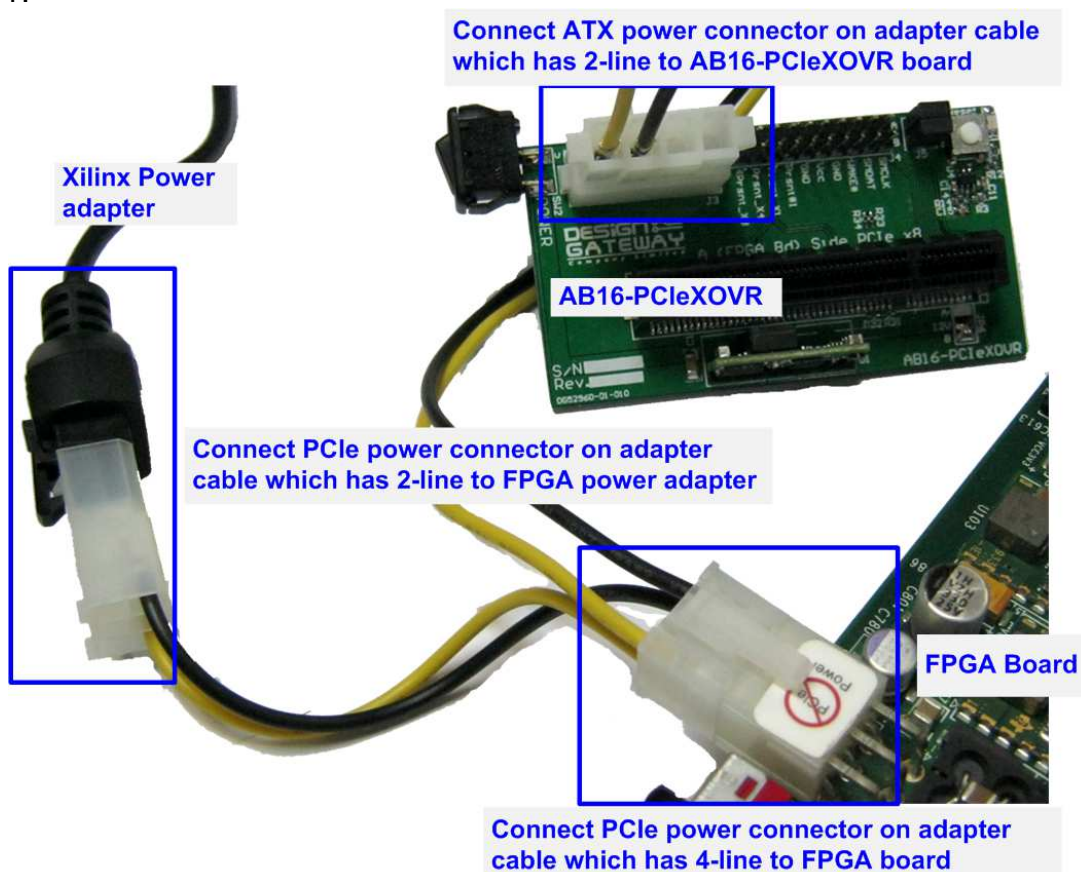

Figure 2-1 Connect power adapter cable to FPGA board, AB16, and Xilinx adapter
- 2) Connect power adapter cable from AB16-PCIeXOVR delivery set to power connector on FPGA board, on AB16-PCIeXOVR board, and on Xilinx power adapter as shown in Figure 2-1.